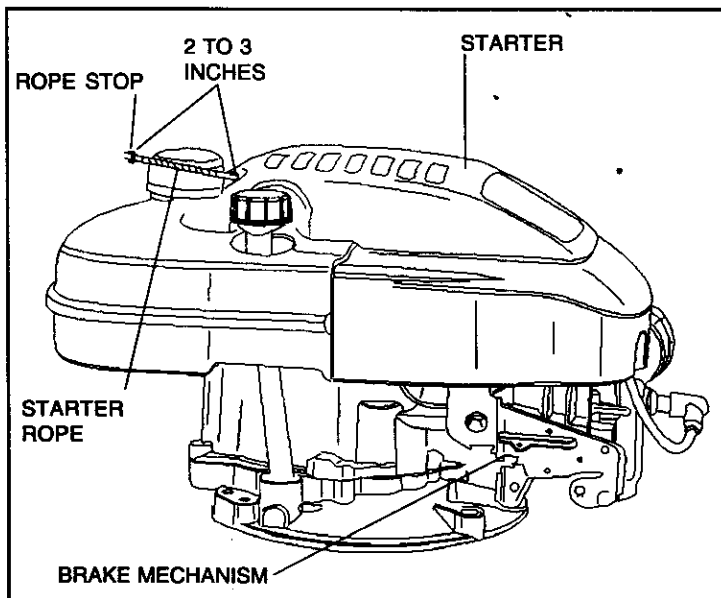
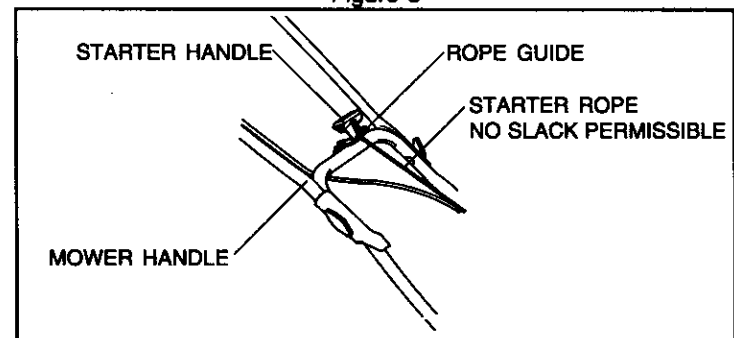

Figure 2
Figure 4
② INSTALL ENGINE BRAKE CABLE AND STARTER ROPE: BRAKE CABLE (see Figure 2):
- Slide rope stop (see Figure 2) onto starter rope and feed starter rope through rope guide on mower handle (see Figure 4).
- With starter handle resting on rope guide (see Figure 4), check starter rope for slack. If there is any slack, pull more starter rope through starter handle and relocate left hand knot to eliminate slack.
- Position rope stop 2 to 3 inches from starter (see Figure 2) and fasten it to starter rope by gripping it with pliers and forcing staple through starter rope until staple is even with out side of rope stop.
③ CHECK OIL LEVEL:
C. Grasp starter handle (see Figure 4) and pull rope out, slowly, until it pulls slightly harder. Let rope rewind slowly. Then pull rope with a rapid full arm stroke. Let rope rewind **SLOWLY**. Do not let starter handle snap back against rope guide (see Figure 4).